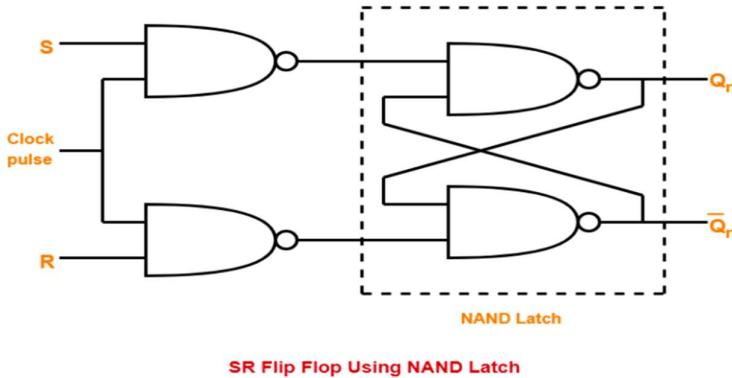

Figure 3: S-R Flip flop using NAND latch
- 2) Write a verilog module for NAND gate and utlize it to develop a structural verilog module for S-R flip flop as per figure 3.